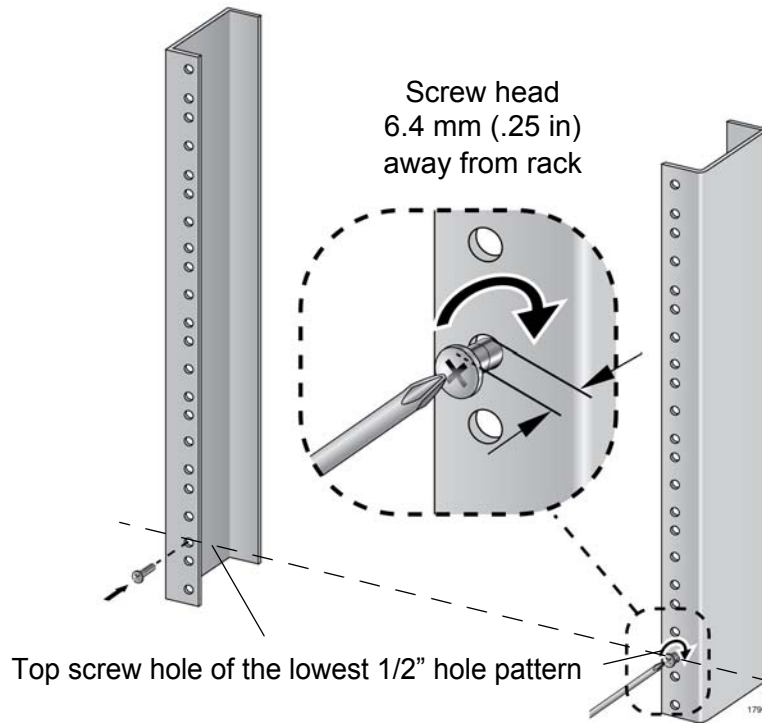

Figure 30. Rack Mounting Hole Locations
4. Install one rack mount screw in each vertical rail, at the same height in the top screw hole of the lowest 1/2" hole pattern, as shown in Figure 30. The screws are used to support the chassis while you secure it to the rack. Do not fully tighten these two screws at this time. The screw heads should protrude from the rack approximately 6.4 mm (.25 in).